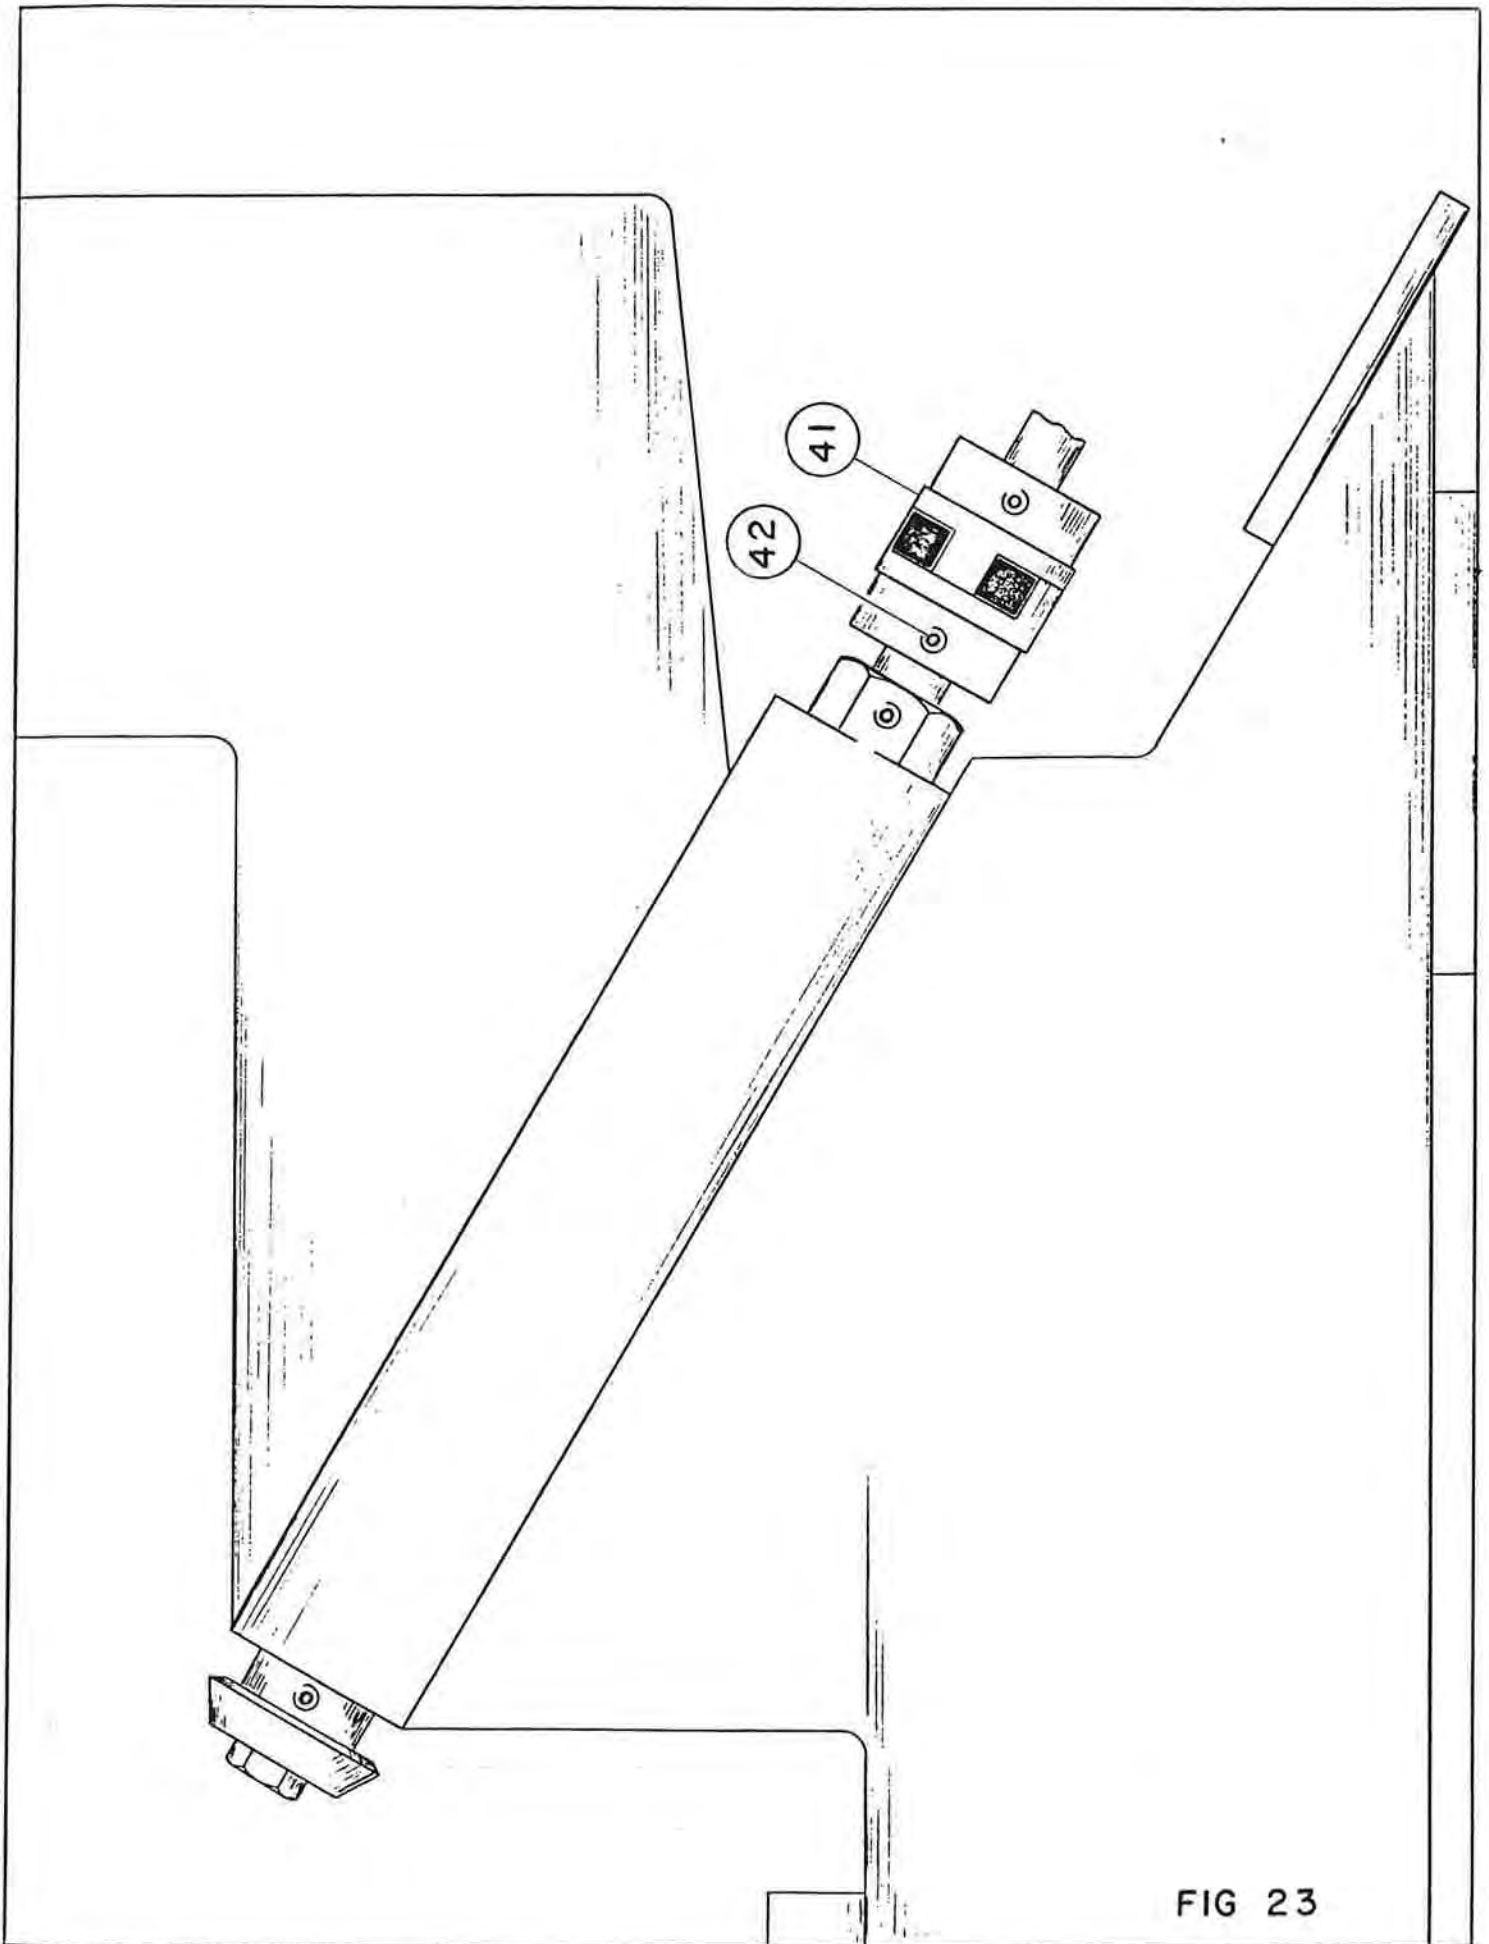

FIG 23
To adjust the drive coupling #41 Fig. 23 Page 31 loosen the two socket set screws #42 Fig. 23 Page 31 then slide the two halves together and tighten the two socket set screws.
(2) See Fig. 23 Page 31